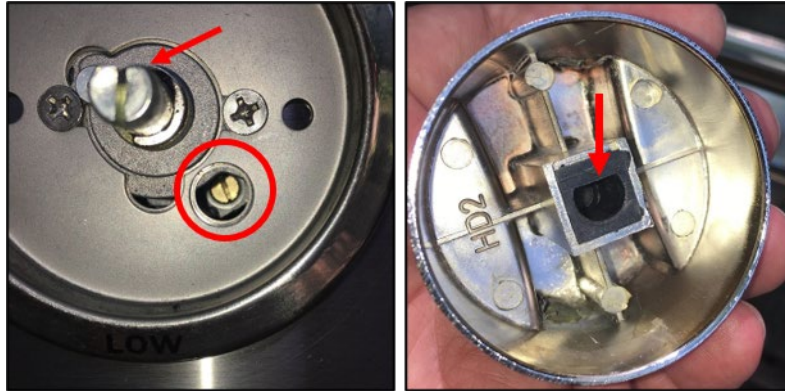

Figure 43 Flame Adjust Setscrew
- b. Pull off the knob and adjust the setscrew shown in Figure 43 until the flame is 1/2" to 1" high